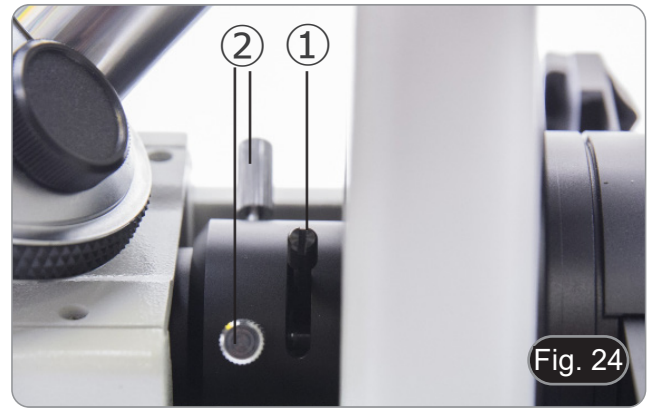

Fig. 24
2. Rotate the field diaphragm lever ①, to fully close the diaphragm. (Fig. 24)
3. Rotate the two centering screws ② to bring the bright spot in the center of the field of view.